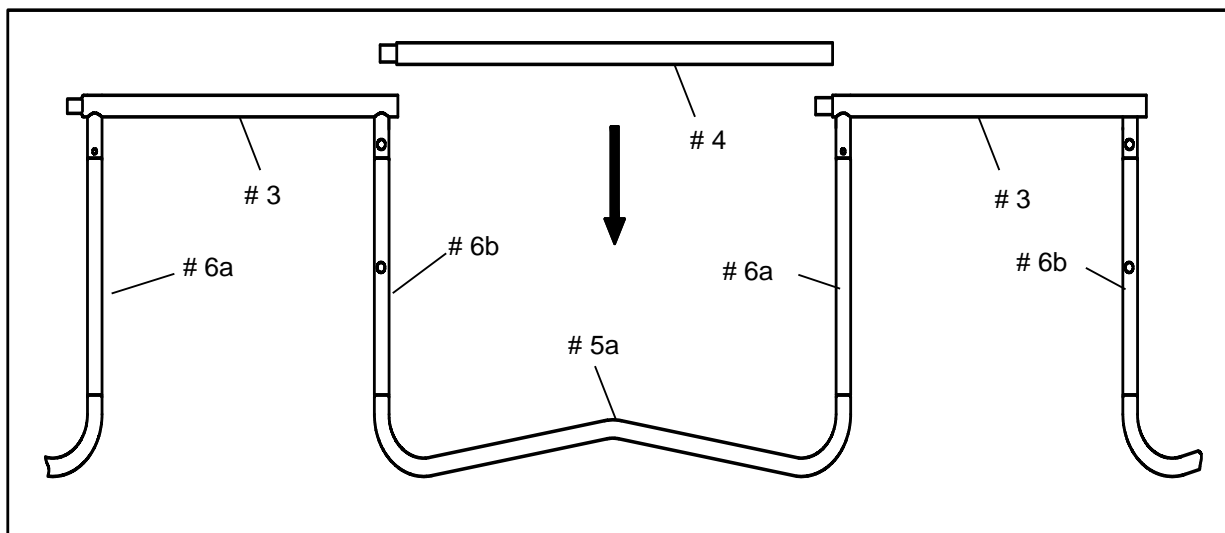

FIGURE 4B
- B. Install the Top Rail (# 4) into the gaps between the Vertical Leg Extensions by inserting them into the slots as shown in FIGURE 4B.